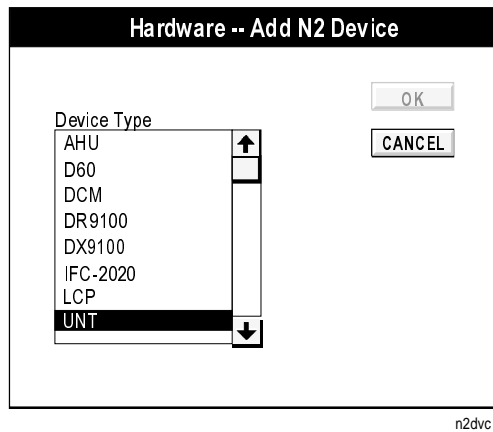

Figure 3: Add N2 Device Dialog Box
- Highlight UNT in the Add N2 Device dialog box as shown in Figure 3.